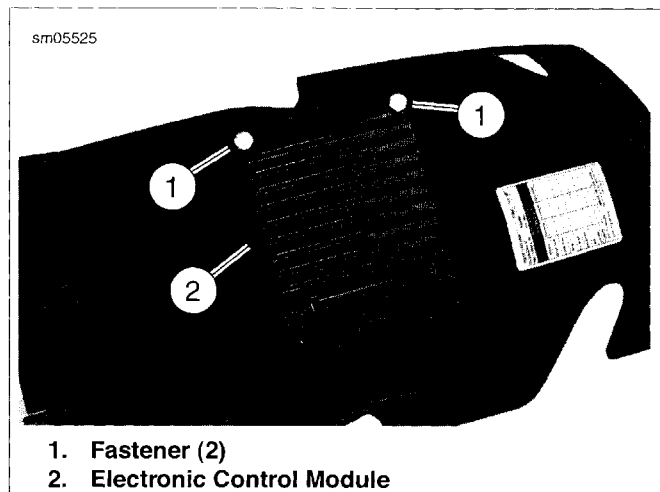

Figure 6-19. Electronic Control Module (ECM): XR Models
3. See Figure 6-19. Remove fasteners (1) and ECM (2).
1. See Figure 6-19. Install ECM (2) and fasteners (1).